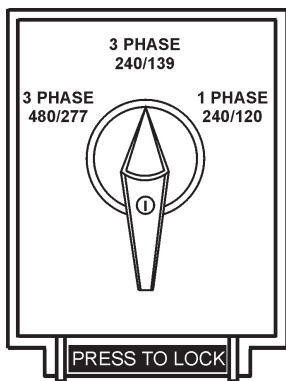

**Figure 19. Voltage Selector Switch
1. Place the voltage selector switch in the 3Ø 240/139 position as shown in Figure 19.